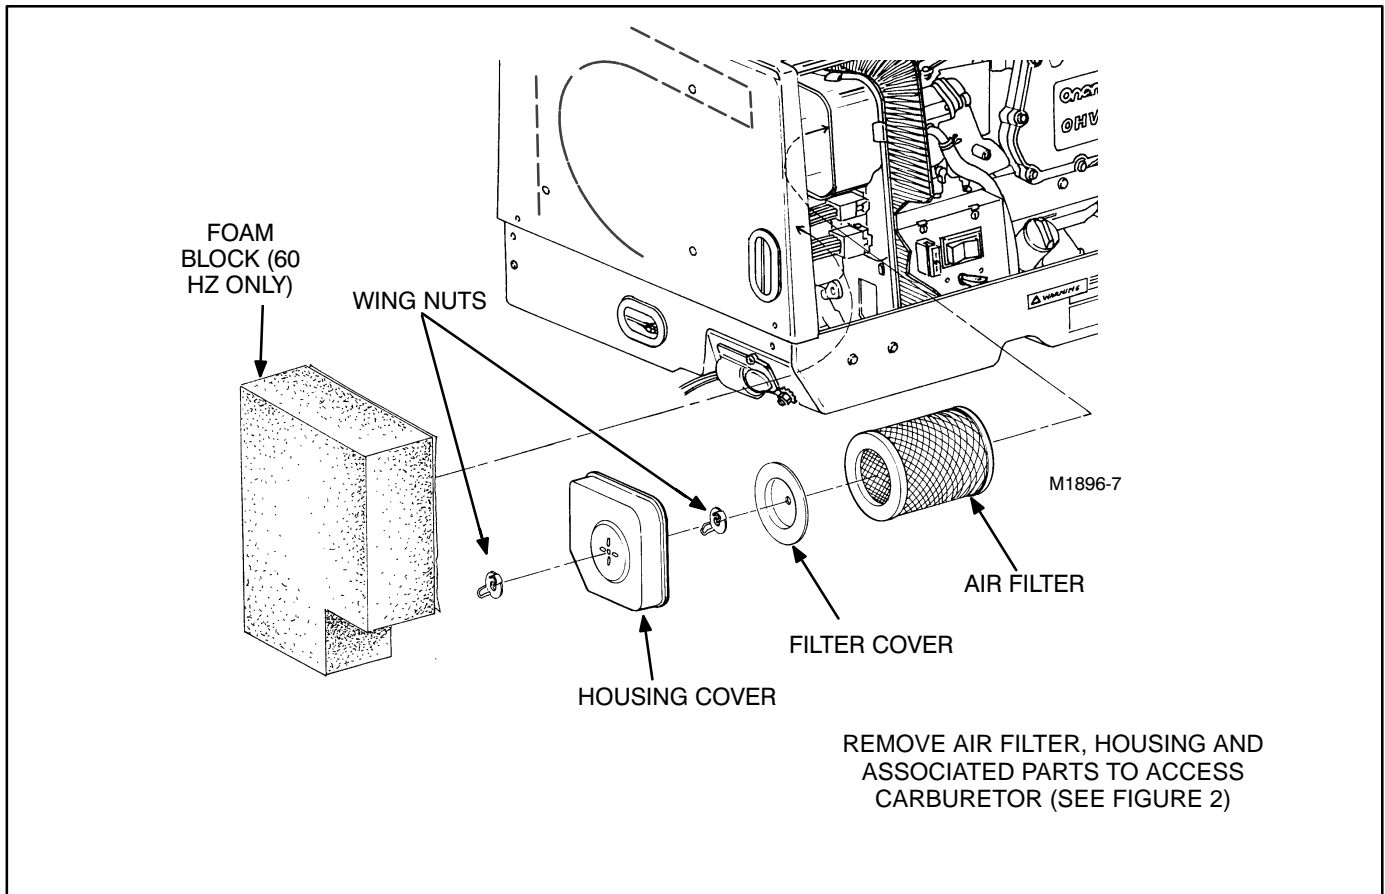

FIGURE 1. AIR FILTER AND PREHEATER ASSEMBLY
2. Remove the air filter assembly (see Figure 1).
4. Remount the air filter assembly and associated parts according to Figure 1. Remount the gen-set housing unless other work is planned. Consult the Service Manual if necessary.